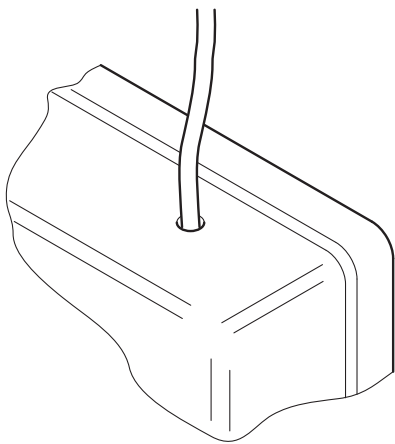

Fig. 14
- (e) (i) Fig. 14 shows the motor cable passing through a hole in the casing.